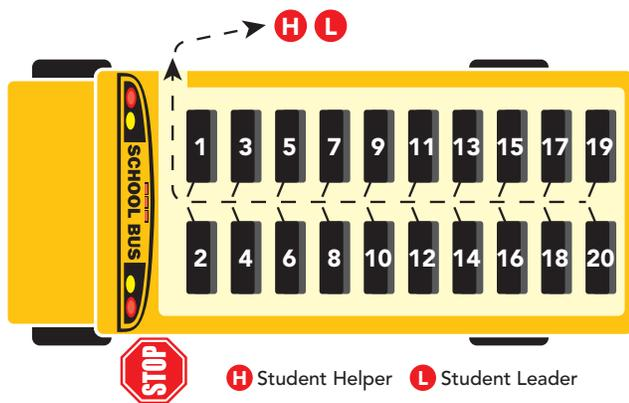

FIGURE 2
18. Complete any reports as required by local policy. (see figure 2.)